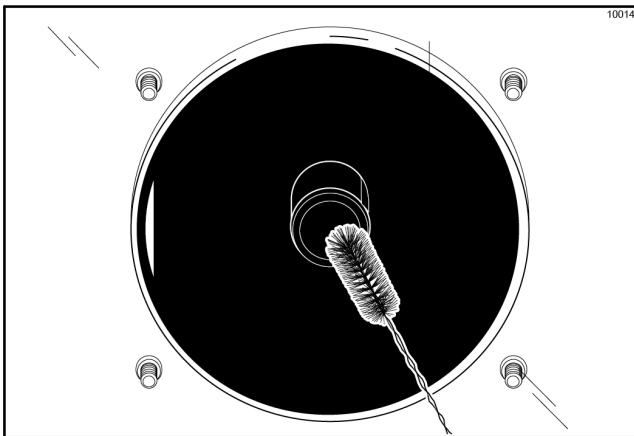

Figure 6-65
4. Return to the freezer with a small amount of cleaning solution. Using the black brush, clean the rear shell bearing at the back of the freezing cylinder. (See Figure 6-65.)